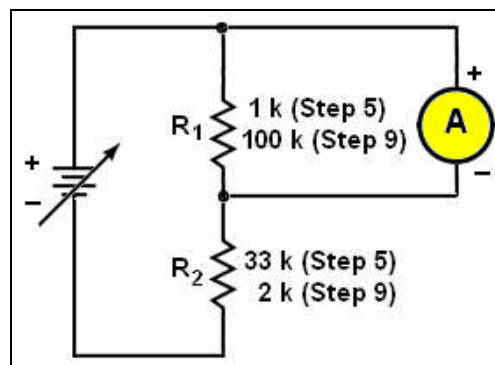

Fig. 1-2 Resistor Circuit for Steps 5 and 9
If the meter does not have a current function, you will have to convert the voltmeter to a make shift ammeter. Construct the circuit shown in Fig. 1-2.
9. If the meter does not have current scales, use the 100 Ohm 1% resistor in conjunction with the voltmeter and construct the circuit shown in Fig. 1-2. The 100 Ohm resistor and the voltmeter are now connected as a makeshift ammeter. The 0-1 volt scale is now read as 0-10 milli-Amperes.